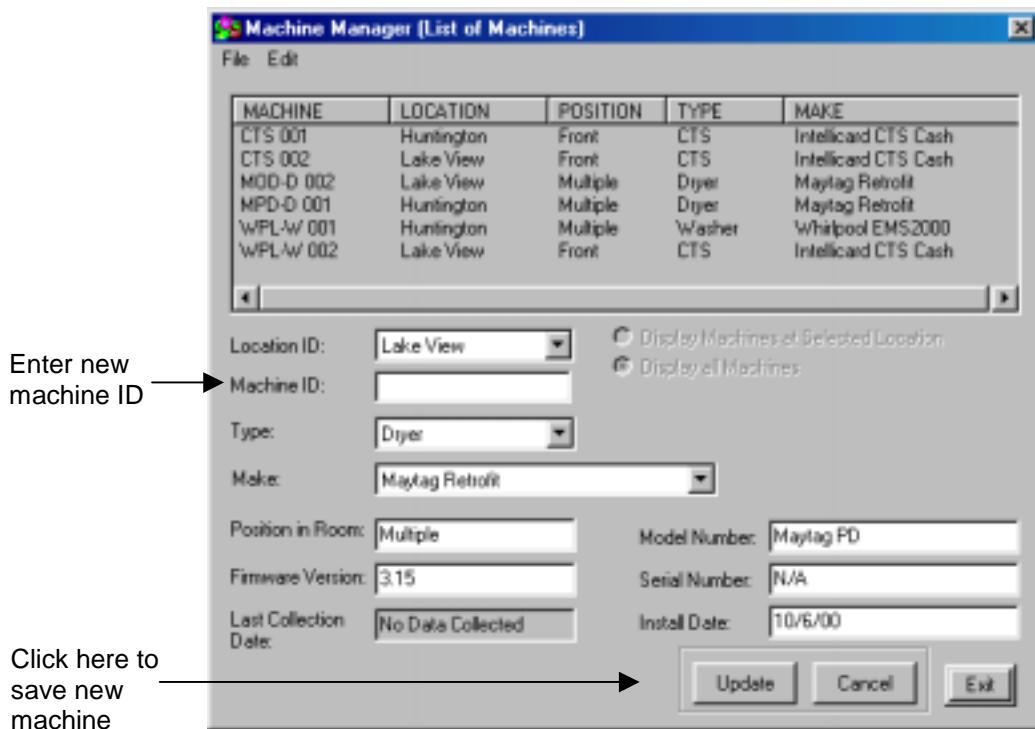

Figure 7.9 Completing the Cloning Process
4. Enter a new machine identification in the Machine ID Record (Figure 7.9).
5. Click the Update button to save new machine record (Figure 7.9).